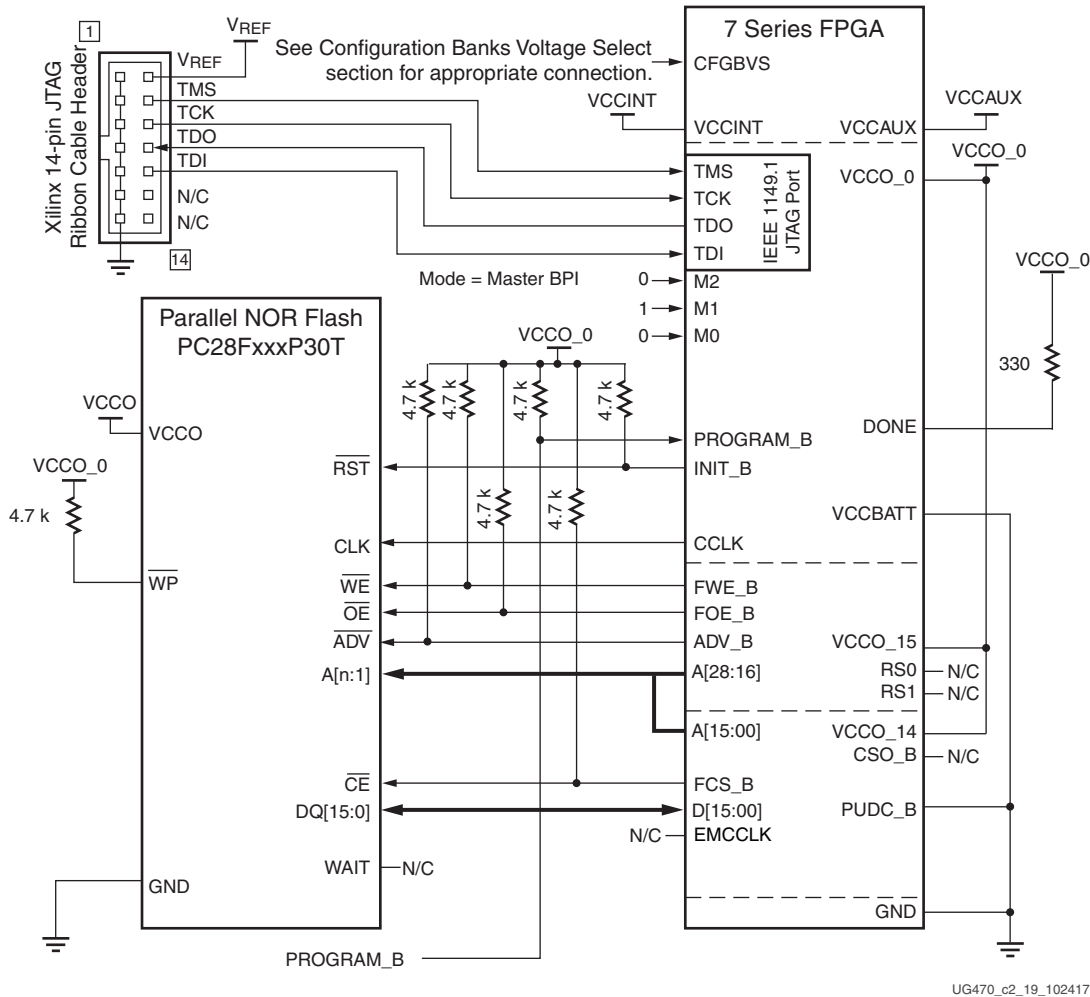

Figure 2-20: 7 Series FPGA Master BPI Configuration Interface Synchronous Read Example
The 7 series FPGA Master BPI configuration mode can optionally read a bitstream from select BPI devices that support burst, synchronous read mode as illustrated in Figure 2-20 and described in Synchronous Read Mode Support, page 64. A BPI device that supports the synchronous read mode latches a given start address from the FPGA into its internal address counter. Then given a clock, the flash outputs data from the next sequential address location to its data bus during each clock period. In the synchronous read mode, a BPI device can deliver data many times faster than through its asynchronous read interface. Refer to the specific FPGA for the number of address signals available that determine the maximum flash density supported for configuration.
Notes relevant to Figure 2-20:
1. The 7 series FPGA synchronous read mode requires a few additional connections over the asynchronous mode. The FPGA CCLK must be connected to the flash CLK signal and the FPGA ADV_B must be tied to the flash \overline{ADV} signal. This setup shown in Figure 2-20 supports the FPGA powering up initially in asynchronous mode and then switching over to synchronous mode.
6. Only the x16 data width shown in Figure 2-20 is supported by the synchronous read mode.
8. The RS[1:0] pins are not connected as shown in Figure 2-20. These output pins are optional and can be used for MultiBoot configuration. See Chapter 7, Reconfiguration and MultiBoot.
11. The FPGA mode (M[2:0]) pins are shown set to Master BPI mode (010). The implementation of a board-level option that enables the user to change the FPGA mode pins to JTAG mode (101) is recommended to enable JTAG-based debug capability for the FPGA during design. This is not required, but the JTAG mode setting ensures that there is no interference from the Master BPI configuration during debug.